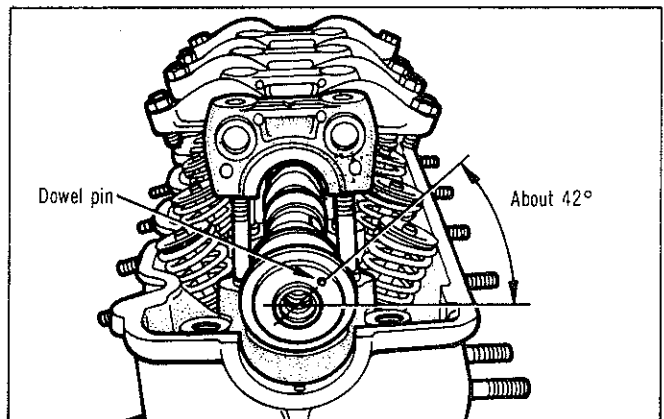

Fig. 41—Positioning camshaft for installation
(9) Position the camshaft, with the sprocket locating key/dowel, as shown in Fig. 41.
(10) Install the cap dowel bushings and position the rocker shaft assembly onto the cylinder head.
(11) Install the rocker arm cover attaching brackets to the front and No. 4 camshaft caps (if applicable).
(12) Install cap retaining nuts and tighten in two stages to the specified torque. Tightening order — No. 3, 2, 4, front and rear.
(13) Install spark plugs.